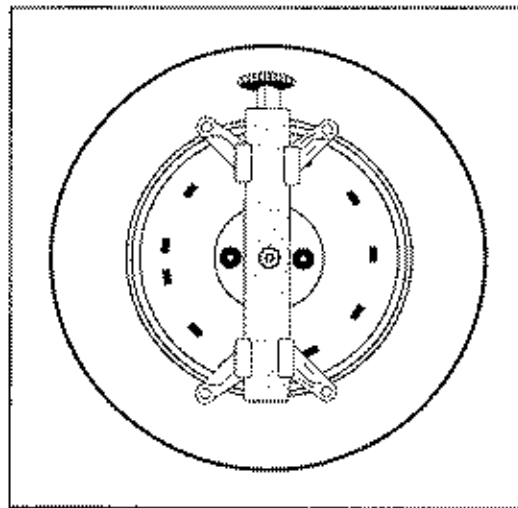

Figure 1-6
1. To attach a clamp to a wheel, position the large black knob toward the top of wheel (see Figure 1-6). Set the lower hooks against the wheel rim (or hook them around the bottom edge of the rim, depending on which hooks are used).